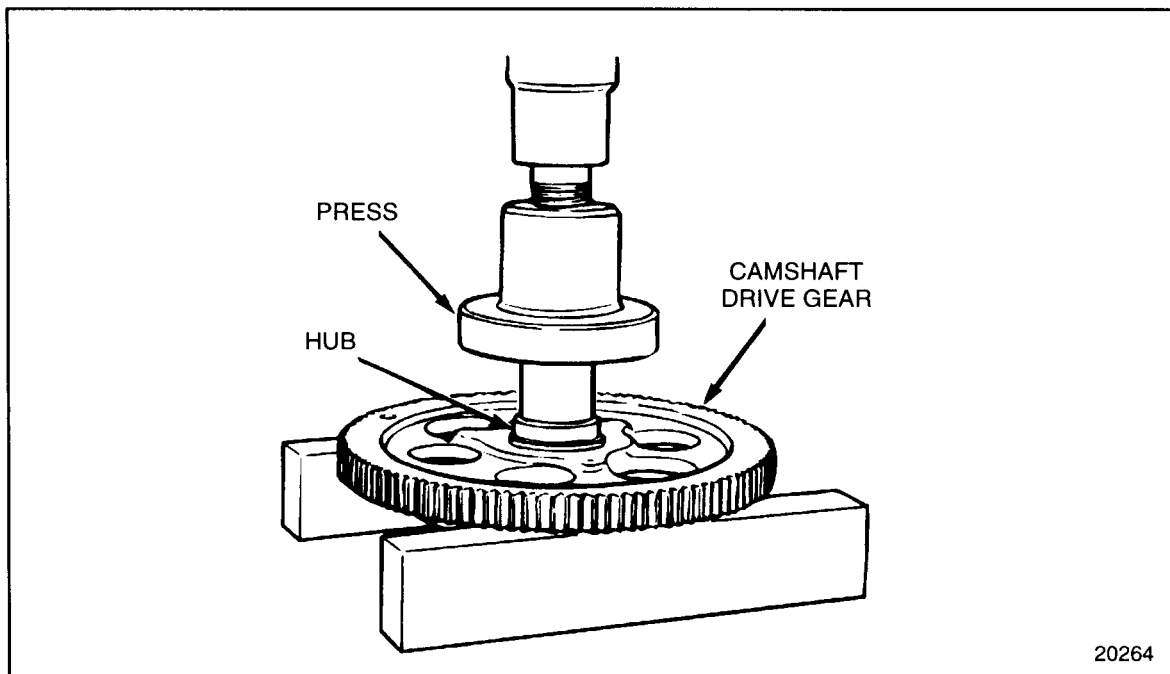

Figure 1-331 Camshaft Hub Removal
9. Press the hub out of the camshaft drive gear until the hub separates from the camshaft thrust plate. See Figure 1-331.